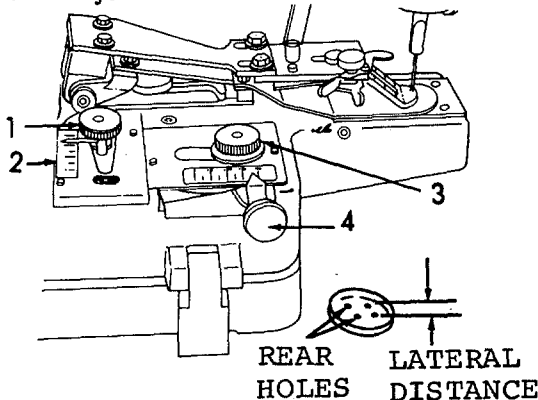

Figure 2-54. Two-Hole/Four-Hole Button Selection.
- (1) Press and hold the left foot treadle to raise the button clamp.
- (2) Use the button clamp spreader lever (1) to open the button clamp and insert a button (2 or 3) with the holes aligned right and left and then release the lever (1).
- (3) Loosen thumbscrew (4) and move the adjusting lever (5) to a point where it just contacts the screw threads. Tighten thumbscrew (4) securely.
f. Adjusting for Two-Hole and Four-Hole Buttons (Refer to Figure 2-54).